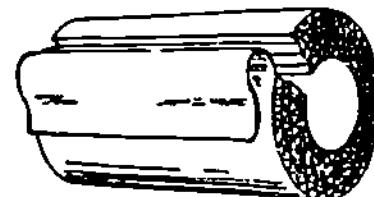

Figure 36-1. Air-Cell Insulation
2. Air-cell pipe covering was in general use years ago, and many older installations still have this type of insulation. It was made of fine-quality asbestos paper and was generally used to cover low-pressure steam and vapor lines. It was made in such a way that it circled the pipe with a jacket of air (air being a poor conductor of heat). Layers of plain asbestos felt were alternated with corrugated asbestos felt, each layer being about 6 mm thick. Air-cell insulation was supplied in 900 mm lengths unless otherwise ordered, and was covered with a canvas or cheesecloth jacket as shown in Figure 36-1.